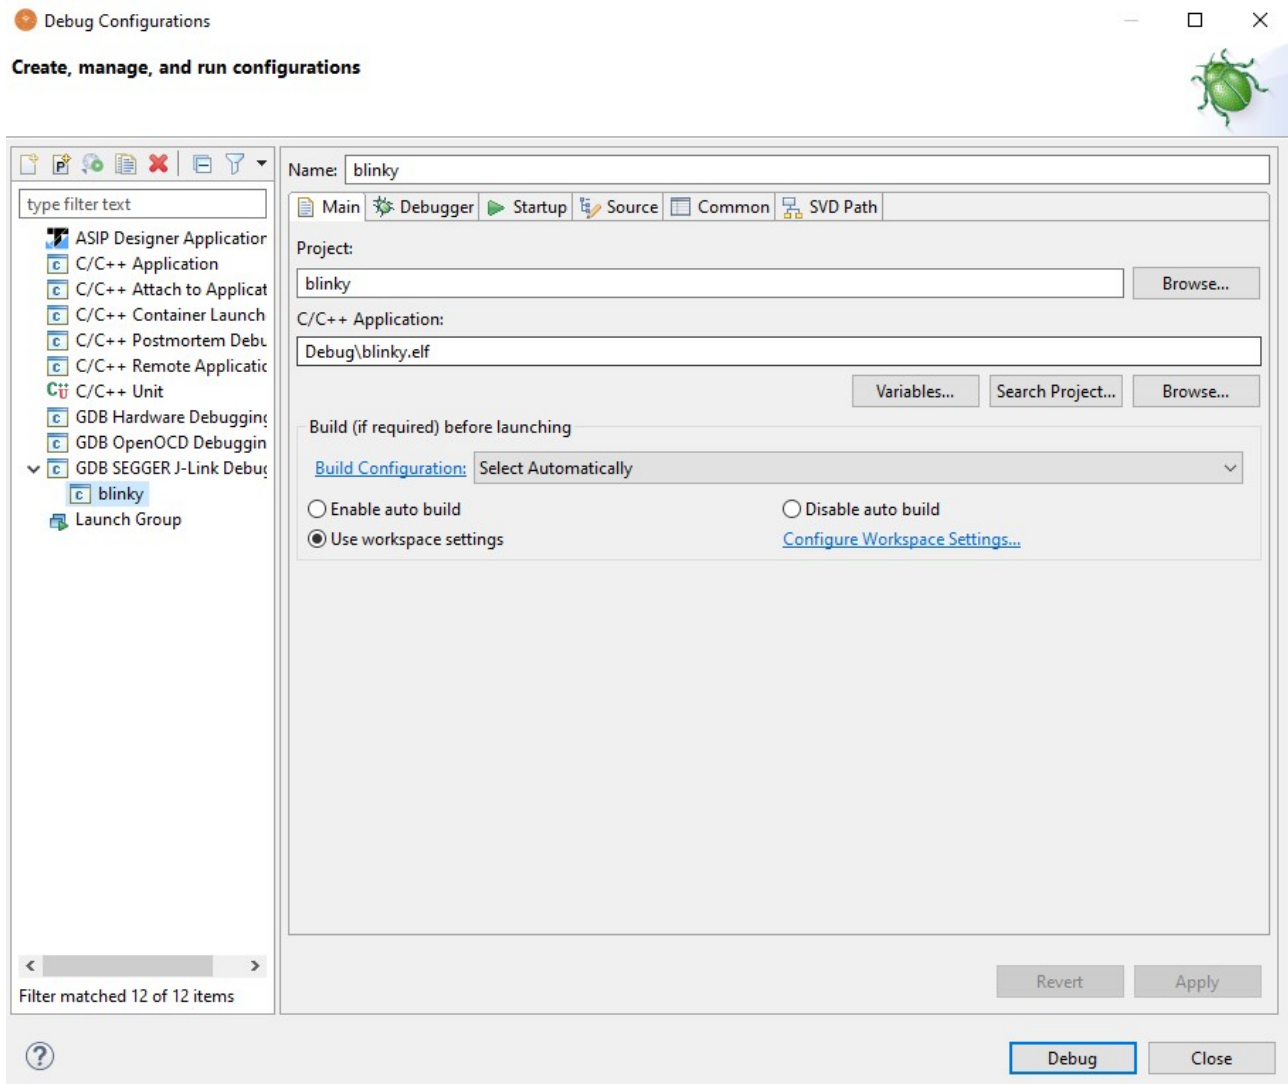

Figure 22. Selecting Project and Application Type
- a. In the **Main** tab view, select the project you are working on (in this case **blinky**), and the C/C++ application (in this case **Debug\blinky.elf**), as shown in figure "Selecting Project and Application Type" (Figure 22).